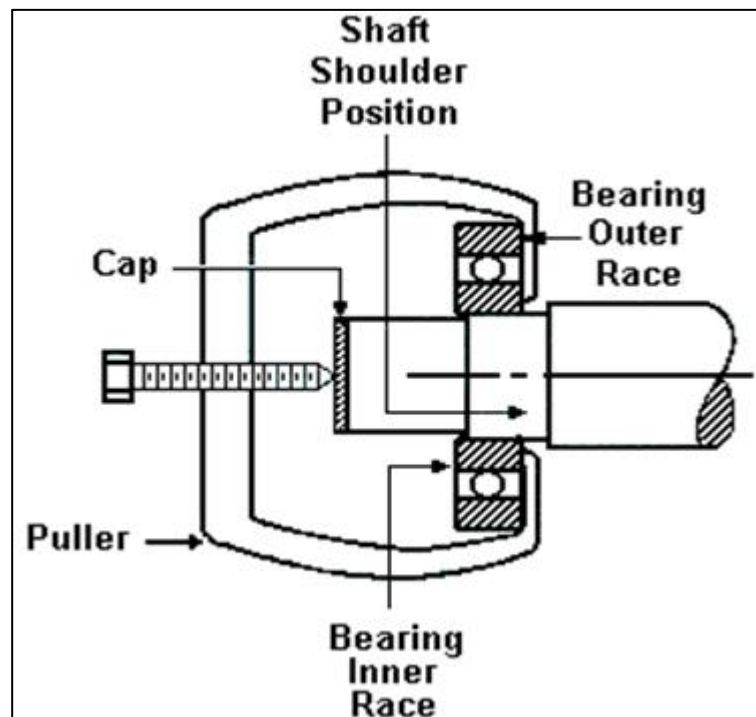

Figure 7.4 – Removing the anti-friction bearing with a puller.
4. Remove the bearing(s) with a puller. Refer to **Figure 7-4**.